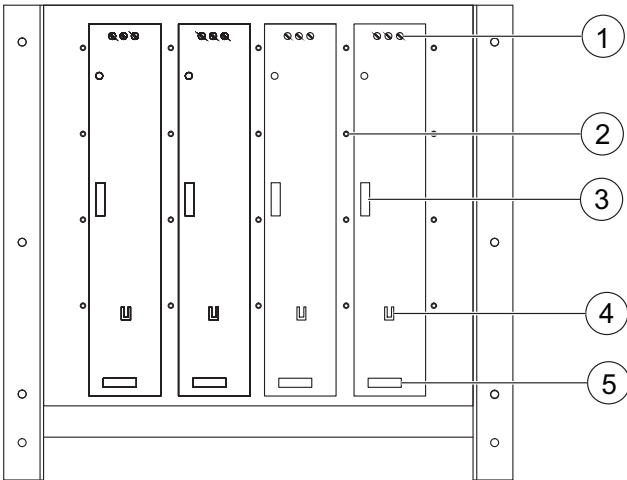

Figure 39 Lamp Driver
1. Disconnect the two (2) output cable wires, the two (2) input wires, the ground wire and the communications cable. Refer to Figure 39.
2. Loosen the top three (3) screws on each lamp driver clamp. Do not remove the screws, loosen them enough to allow the lamp driver to be removed (about ½ turn).
- 3. Support the lamp driver with one hand, loosen the two (2) lower screws and slide the lamp driver up and out of the clamps.